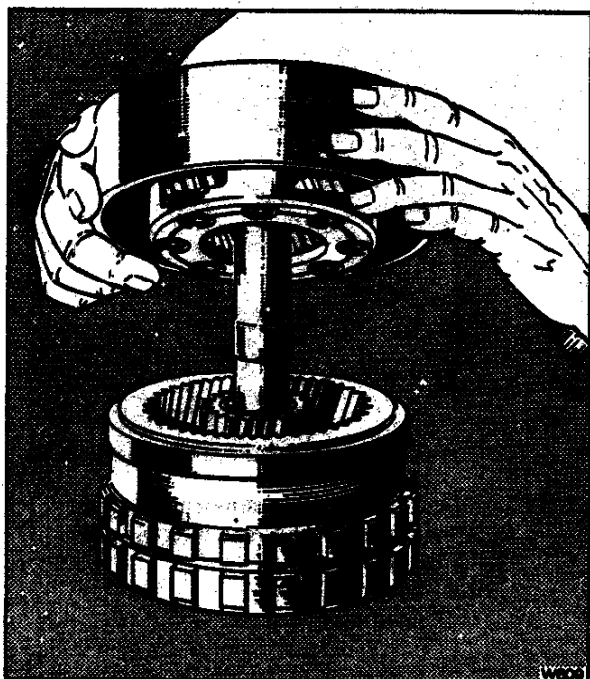

Fig. T120 Fitting the reaction carrier to the output carrier
19. Ensure that the reaction carrier pinion gears are adequately lubricated, then fit the reaction carrier onto the output carrier as shown in Figure T120.